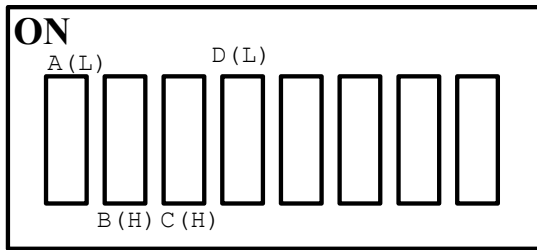

Figure 2: Switch layout (legend) with true switch positions labeled. A and D are active-low signals; B and C are active-high signals.
7. Make a **switch legend on your logic circuit schematic** that indicates the switch position for each input signal when it is true (as shown in Figures 2 and 3 on the next page). For every circuit diagram that you build in lab this semester you are **REQUIRED** to draw a legend on your logic circuit design, like the one shown in Figure 2. Be sure to include the word ON.